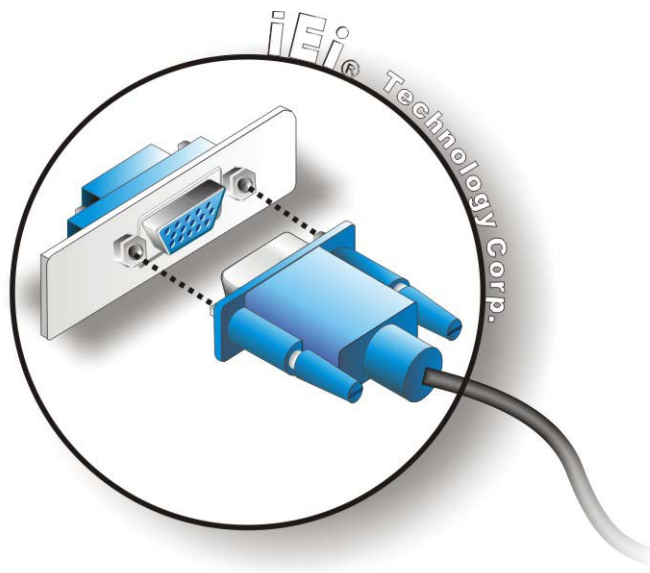

Figure 4-15: VGA Connector
- Step 3: Insert the VGA connector.** Once the connectors are properly aligned with the insert the male connector from the VGA screen into the female connector on the KINO-AQ870. See **Figure 4-15**.